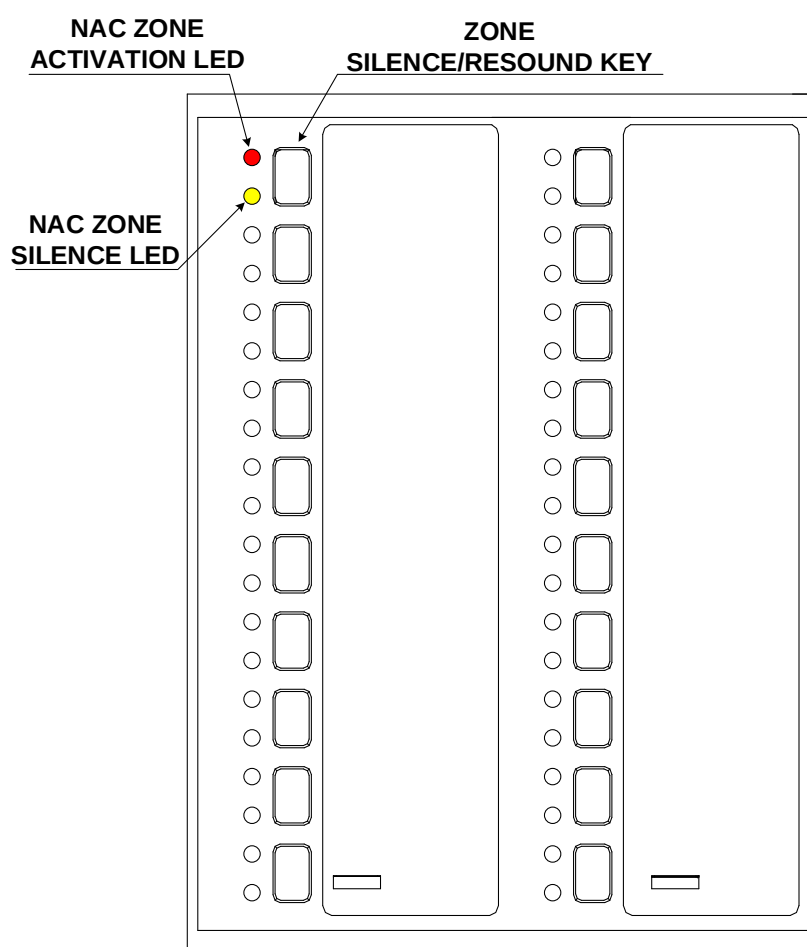

Fig3.2
- ✧ **NAC ZONE ACTIVATION:** When an individual NAC zone controlled by DI-M9305 is activated, the associated red LED lights. It goes out when the NAC zone is silenced or reset. This feature requires ZC-400 as shown in Fig 3.2. Refer to Fig 4.30 for programming.
- ✧ **NAC ZONE SILENCED:** When an individual NAC zone controlled by DI-M9305 is silenced, the associated yellow LED lights. It goes out when the NAC zone is reactivated or reset. This feature requires ZC-400 as shown in Fig 3.2. Refer to Fig 4.30 for programming.
- ✧ **ZONE SILENCE/RESOUND:** When an individual DI-M9305 controlled NAC zone is activated, it can be silenced by depressing the associated ZONE SILENCE/RESOUND key once, and then reactivated by second depressing. This feature requires ZC-400 as shown in Fig 3.2, refer to Fig 4.30 for programming.